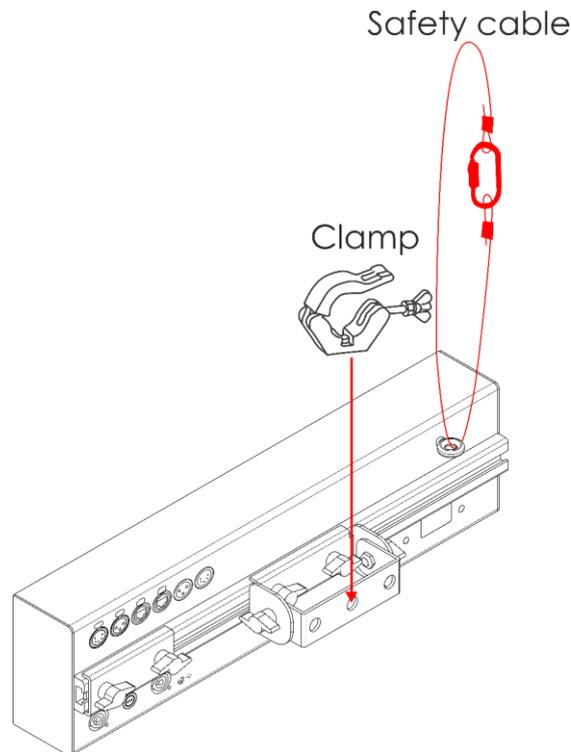

Fig. 04
- 01) Install the clamp, as shown in Fig. 04. Make sure that you use clamps suitable for attaching the device to a truss.
- 03) Secure the device with a secondary suspension, for example a safety cable. Make sure that the secondary suspension can hold 10 times the weight of the device. If possible, the secondary suspension should be attached to a supporting structure independent of the primary suspension. Put the safety cable through the **safety eye (07)**, as shown in Fig. 04